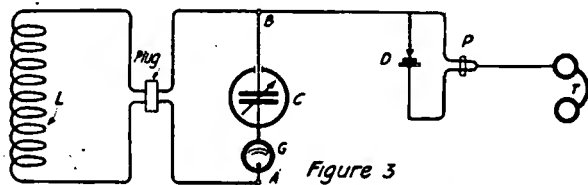

Figure 3
The precautions regarding detector capacity illustrated in figures 1 and 2B give a sensitive detector connection, but do not give the sharpest tuning possible. The unilateral connection of the detector shown schematically with other improvements in figure 3, gives a response about one-seventh as loud as that given in figure 2B, under similar conditions, but much sharper. The energy caught in the detector is really that rectified in the radio frequency current from the fixed or high potential side B of the condenser C , through the detector D and phones T , and out into space as dielectric flux between the other side of the condenser C which is grounded to a metal shield S joined to the movable plates of C .
The wavemeter should be capable of use as a transmitter or driver either by buzzer or triode (vacuum tube with three electrodes). With the latter we are not concerned here, but connecting a battery and buzzer in series to the binding posts A and B figure 3 gives a source of variable wavelengths.
C. On no account should it be inserted between the point A and the coil L, as it would register the direct current in the buzzer. The advantage gained in the arrangement of figure 3 is that only oscillating current passes through G, which thus gives a relative measure of the efficiency of different buzzers, if run at a given audio and radio frequency with the same battery.